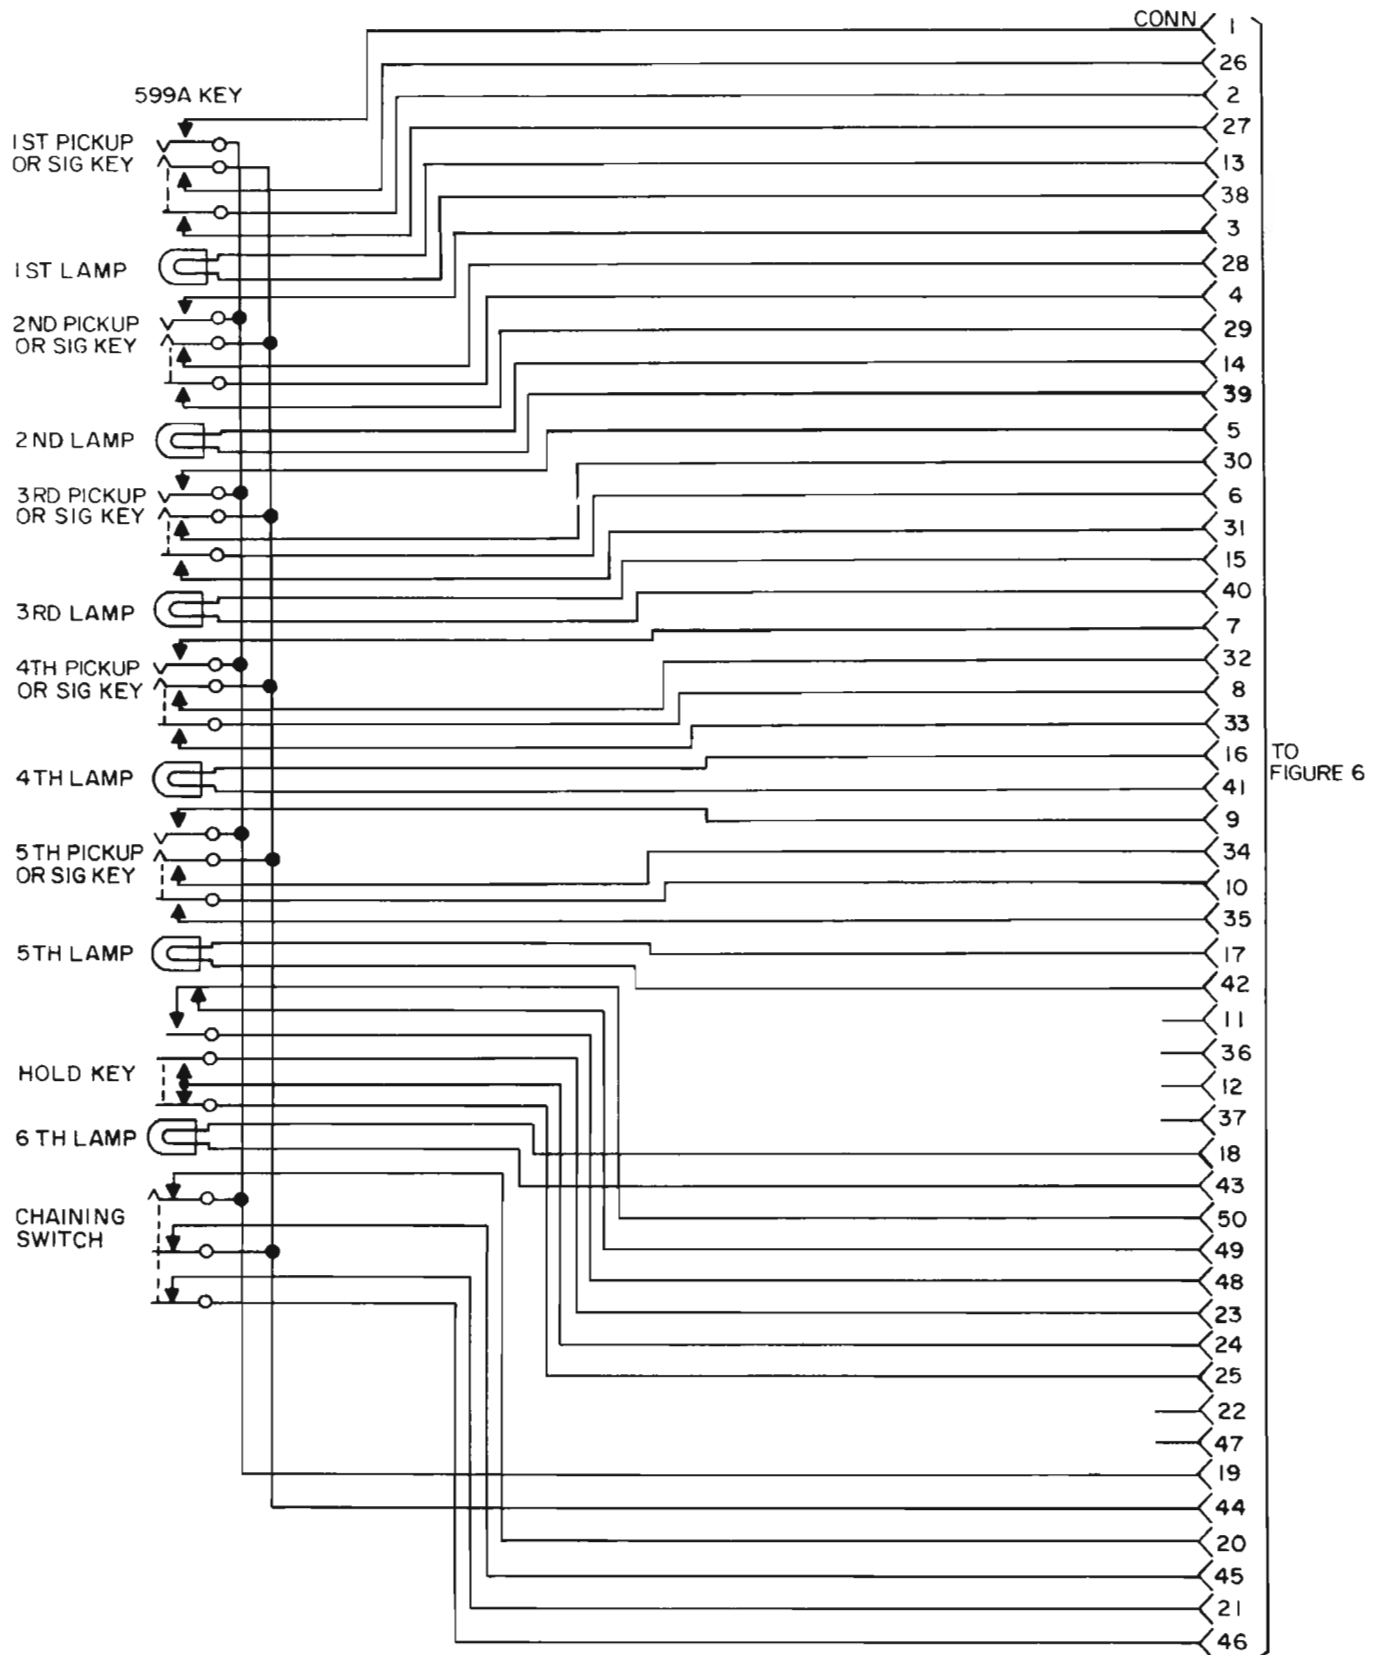
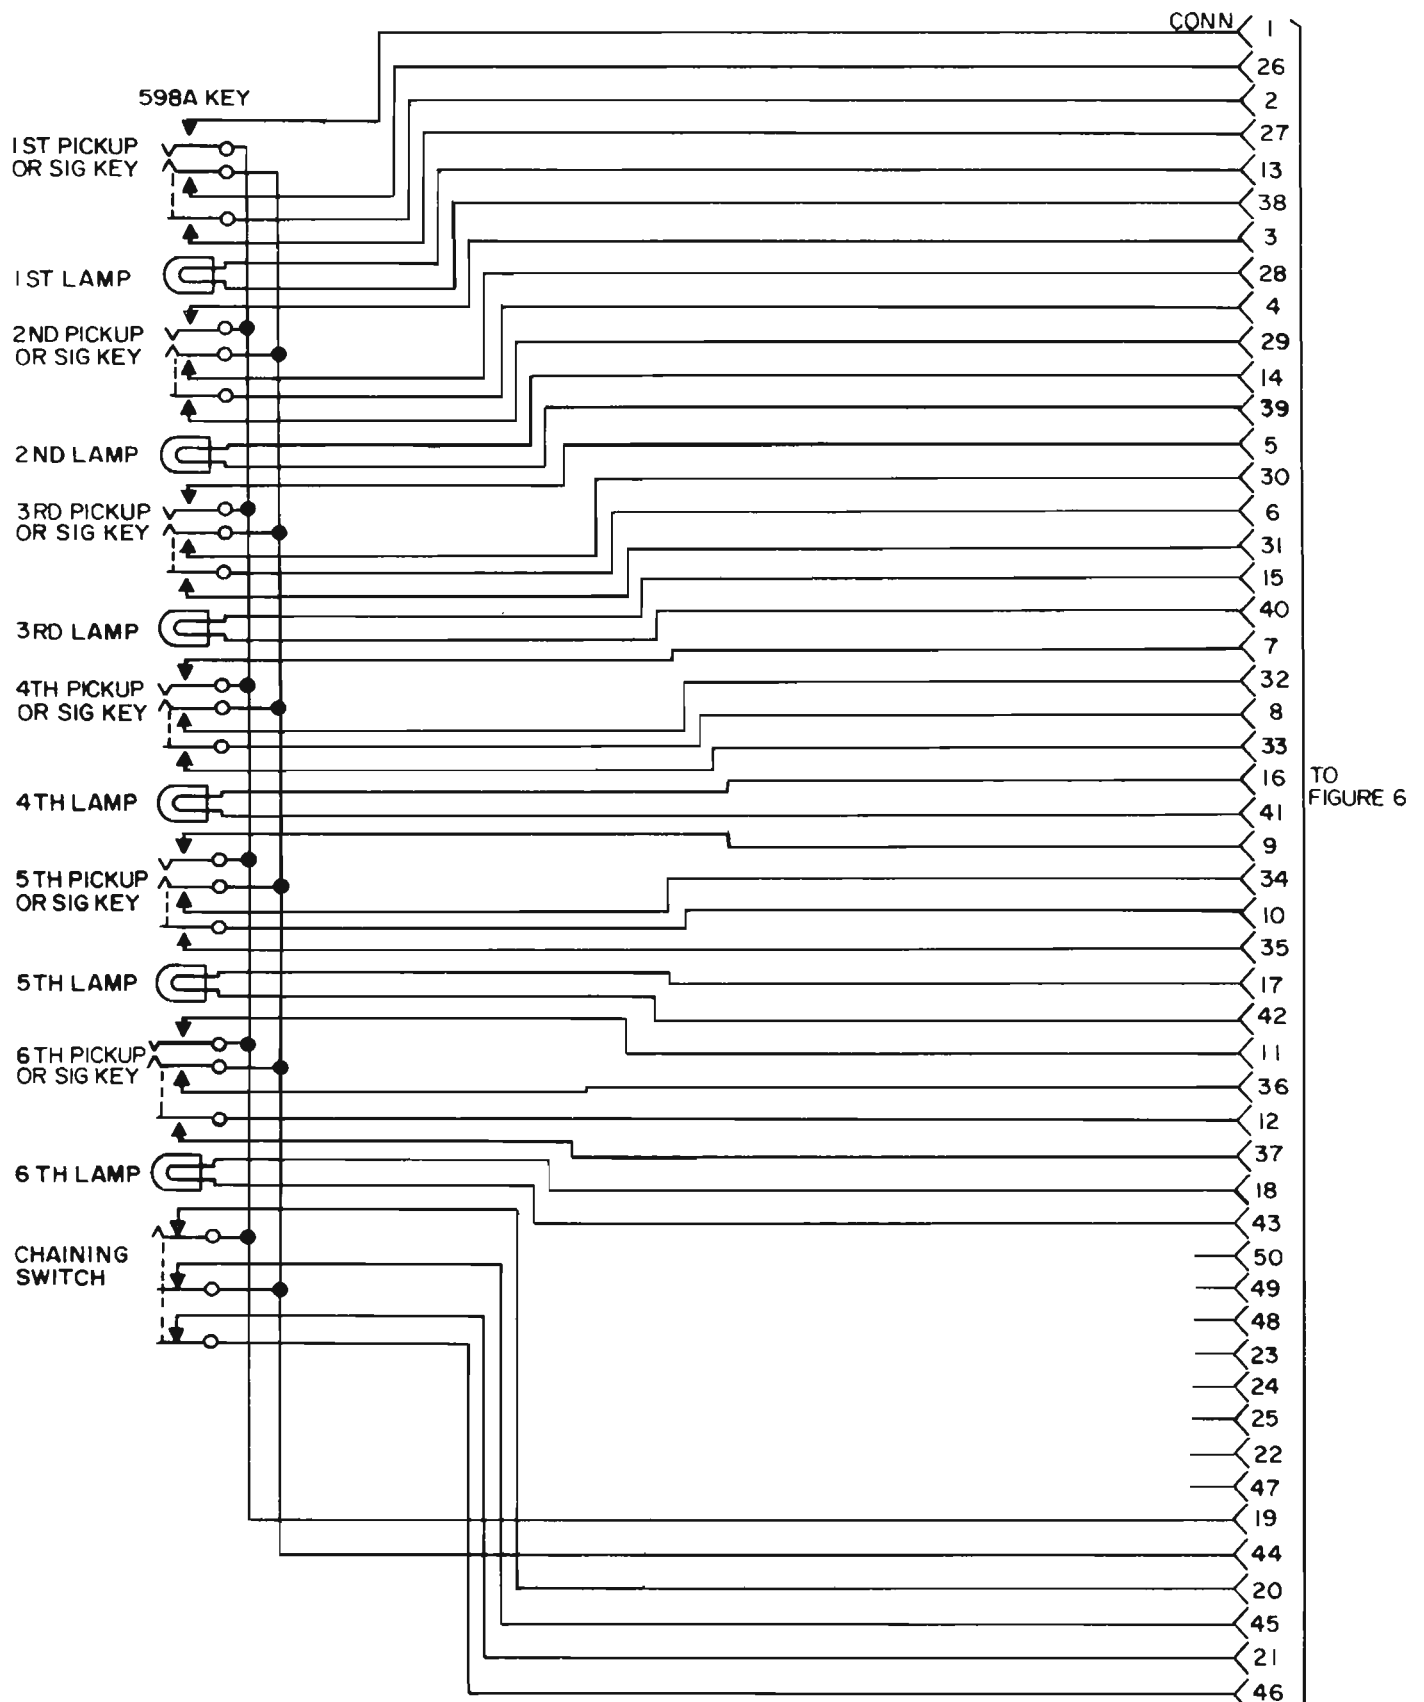

Figure 3. Connections for the WECO 599A Key.
Figure 4. Connections for the WEC0 598A Key.
2.06 The first (extreme left) key-strip unit normally consists of a WECO 599A 6-button key unit having five locking pickup keys and one hold key. Connections for the WECO 599A key are shown in Figure 3. The pickup keys are equipped with clear plastic pushbuttons, while the hold key has a red pushbutton. The second and third (when used) key-strip units each consist of a WECO 598A 6-button key having six pickup keys. Connections for the WECO 598A key are shown in Figure 4.
4.02 To use the WECO 636CW1 telephone set in a Type 1A Key Telephone System, the telephone set must be modified as shown in Table 1. Refer to Figures 3, 4 and 5 for conductor and terminal locations.